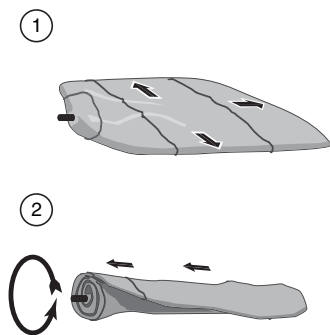

Figure 5: Spread Air Cell Out Flat and Squeeze Air Out; Roll Cell Tightly, Squeezing Remaining Air Out Through Valve
- B. Place air cell on clean surface with opening to one end; flatten bag to force air out. Pull ends out flat (see Figure 5).
- C. To get tightest possible wrap, start on one side and **TIGHTLY** roll air cell to other side (see Figure 5). Force out as much air as possible.